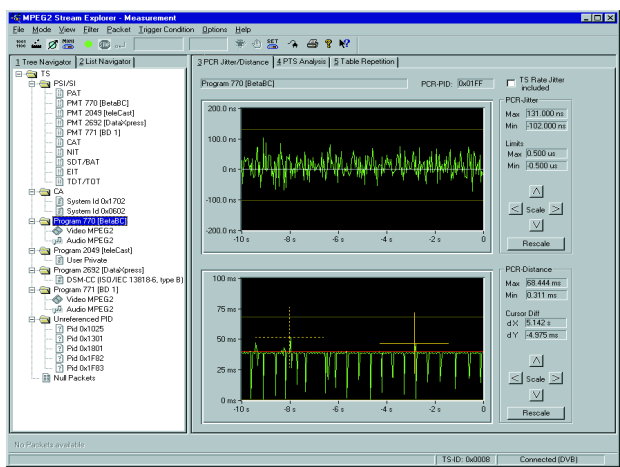

Fig. 3: Realtime measurement of PCR jitter and PCR spacings (DVB mode)
- PCR jitter (Fig. 3)
- Spacing of PCR values in transport stream (Fig. 3)